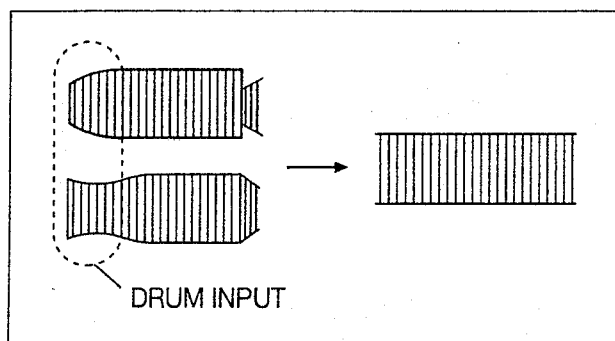

Fig. 5-8
- If the ENVELOPE waveform as shown in Fig.5-8, 9, 10 is not uniform, adjust the S, T GUIDE ROLLER repeatedly at the point of nonflat.